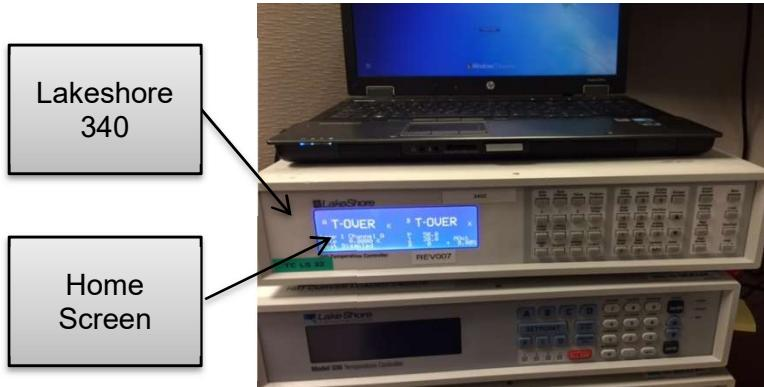

Figure 1
- 1.8 Press cancel screen key to return to home screen displaying temperature sensor readings (Figure 1).